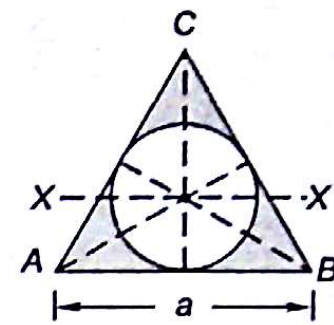

Fig. 8.21
8.7 An equilateral triangle of side a has a circular hole touching its 3 sides. CG of hole and triangle is same what is I_{xx} of shaded area (Fig. 8.21)